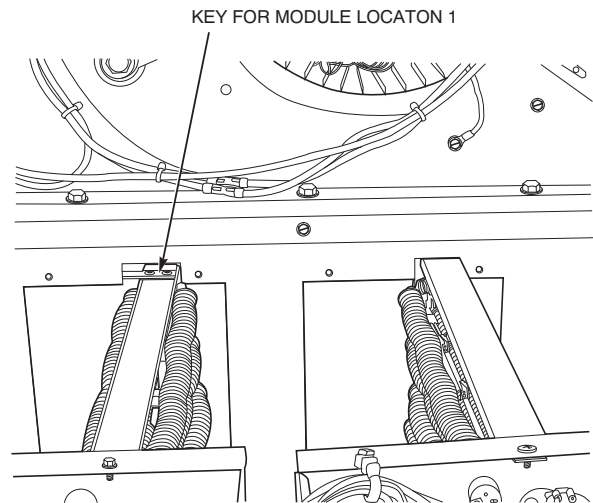

Fig. 46 - Typical Electric Heat Installation
1. Identify heater cover(s) to remove (See Fig. 46).
a. Heaters 101A00-109A00: To install module, insert heater frame into location notch in heater bracket opening in unit and slide heater through the opening. Fasten heater module to heater mounting bracket with the four screws saved from Step 1 (See Fig. 46).
c. All other heaters: To install module, engage flange on heater with track in unit and slide heater through mounting bracket opening. Fasten heater module to heater mounting bracket with the four screws saved from Step 1 (See Fig. 46).